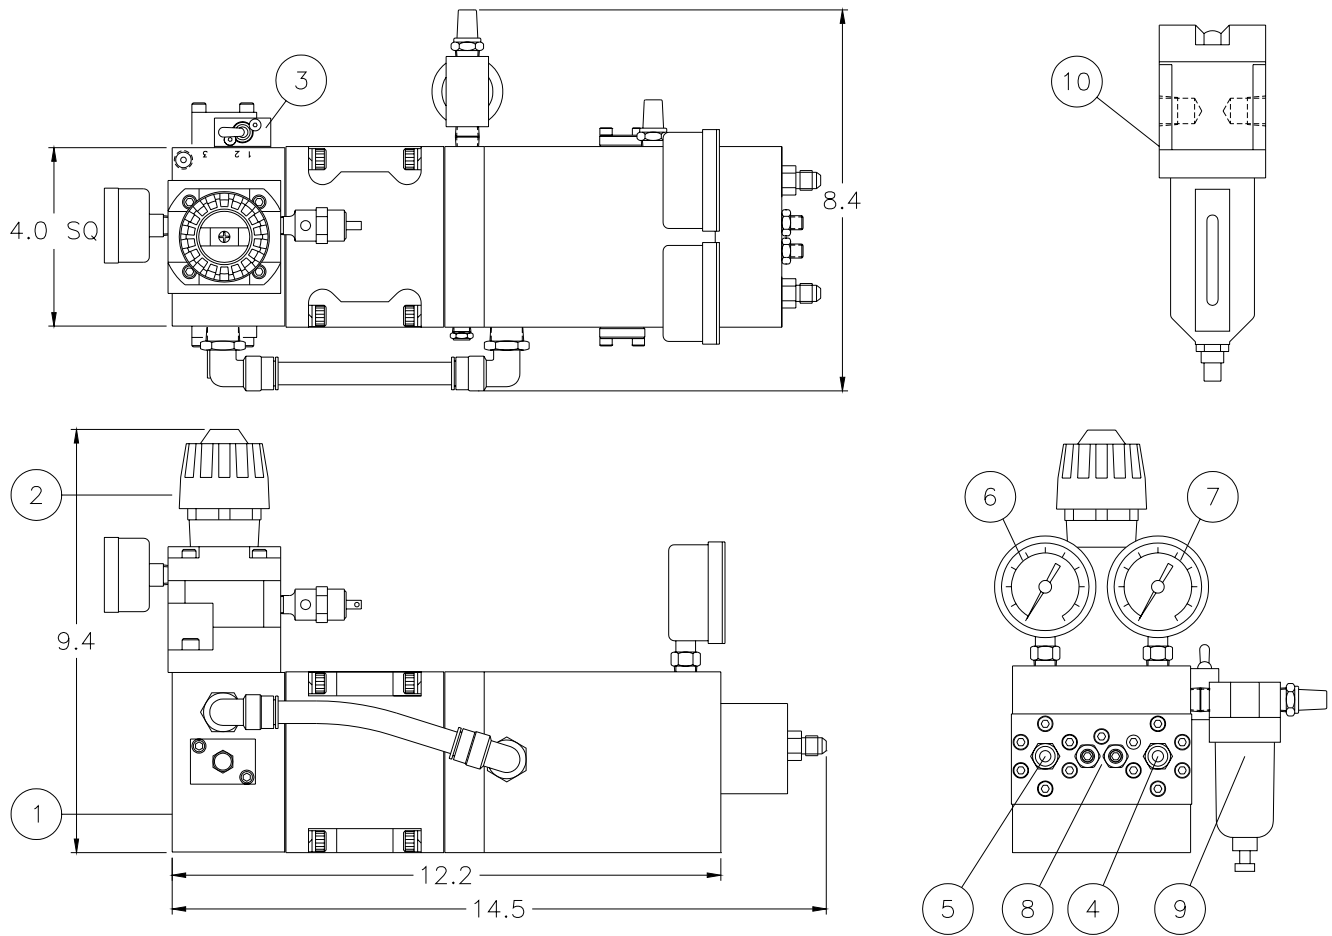

Fig 1a
## **2.1 Component Description** (Refer to Fig. 1a. for component location.)
- 4.1.2 Decrease item 2 (fig 1a) inlet pressure regulator to minimum pressure setting.
- 4.1.4 Connect the output of the gas supply bottle to the gas inlet connection of the Oxygen Booster (See figure 1a).